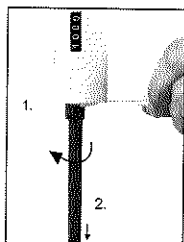
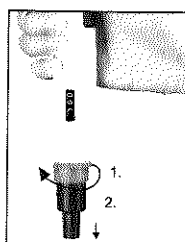

Fig. 9
Fig. 10
- Place the wrench end of the opening tool over the tip cone, turning it anticlockwise. Do not use any other tools (Fig. 9). The 5 ml tip cone is removed by turning it anticlockwise. Do not use any tools (Fig. 10).